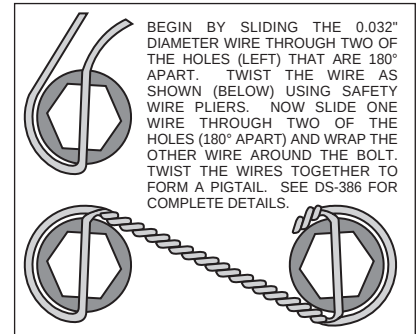

Figure 3. Safety Wire Diagram
- With the larger I.D. side of the rotor (3) facing away from the hat (4), bolt rotor (3) to hat (4) through the backside of the rotor using washers (5) and bolts (6). Using an alternating sequence, apply red *Loctite*® 271 to the threads and torque bolts to 140 in-lb. For an added measure of security, the bolts may be safety wired using standard 0.032 inch diameter stainless steel safety wire as shown in Figure 3. Please refer to Wilwood's data sheet DS-386 (available at www.wilwood.com/Pdf/DataSheets/ds386.pdf) for complete safety wire installation instructions.